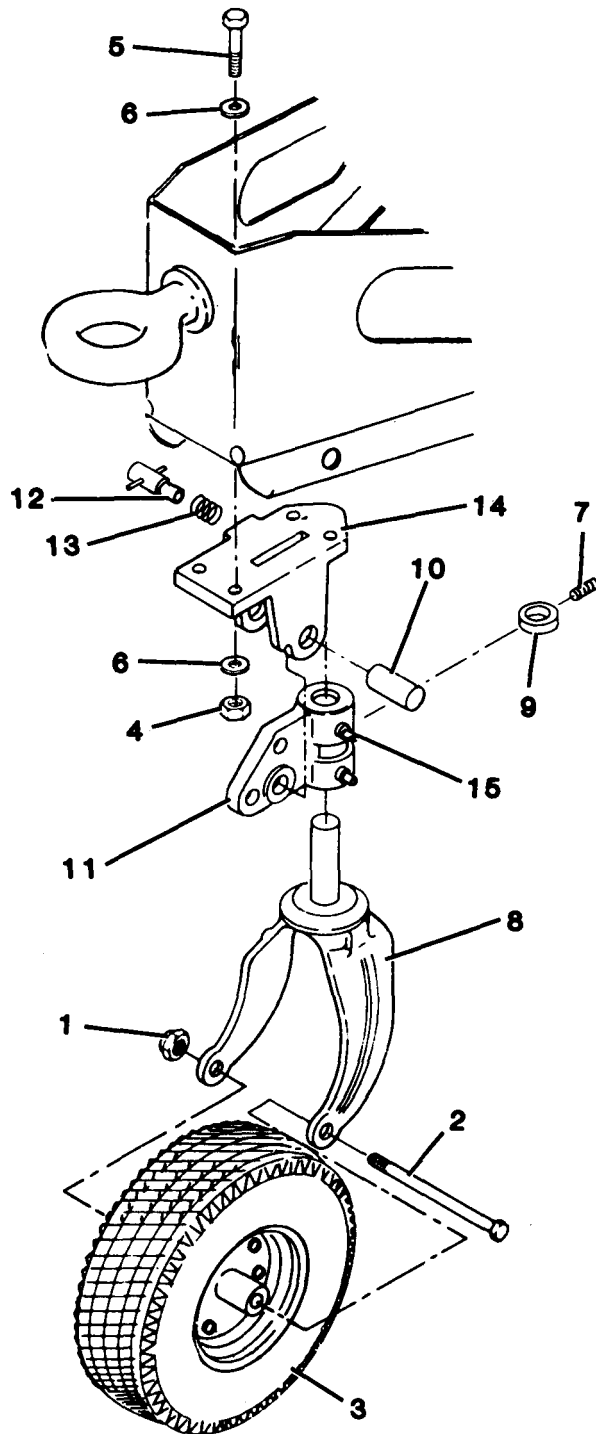

Figure 12-2. Swivel Caster Repair
(1) Set handbrake and chock both wheels.
(2) Loosen nut (1, figure 12-2).
(3) Refer to Detail Assembly shown in Figure 12-2. Ensure that handle extension (16) has been installed on handle (12). If not, remove spring pin (18) from handle (12). Slide handle extension (16) into place on handle (12) and secure with spring pin (17). Reinstall spring pin (18) in hole provided in handle extension (16).
(4) Place collar (9) in swivel head. Slide fork (8) into swivel head.
(5) Secure collar to shaft of fork with setscrew (7).
(6) Attach assembled swivel caster to generator set with capscrews (5), washers (6), and nuts (4). Torque to 450-500 inch pounds (50.8-56.5 Nm).
(7) Position wheel (3) in fork and install bolt (2) and nut (1).
(8) Raise generator set and remove blocks.
(9) Torque nut (1).
(10) Remove chocks and release handbrake.